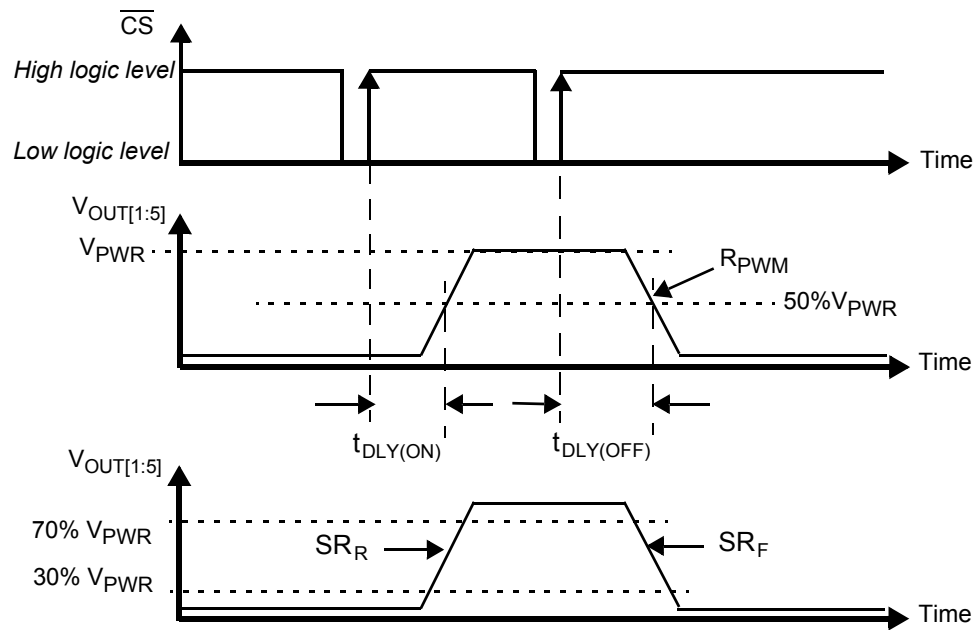

Figure 6. Output Slew Rate and Time Delays
42. The PWM ratio is measured at  $V_{OUT} = 50\%$  of  $V_{BAT}$  in nominal range of PWM frequency. It is possible to put the device fully on (PWM duty cycle = 100%) and fully off (PWM duty cycle = 0%). Between 4%-96%, OCHI1,2, OCLO and open load are available in ON state. See Figure 6. Output Slew Rate and Time Delays.